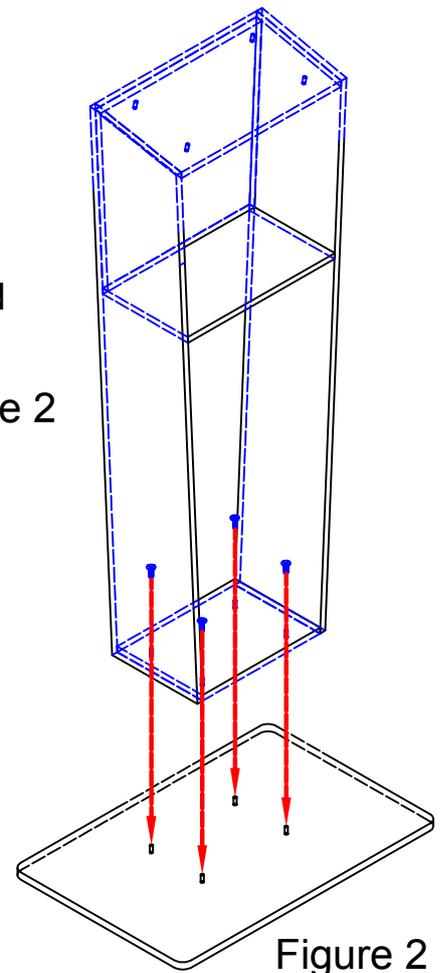

Figure 2
3. Using the provided Screwdriver, attach the Body to the Base with (4) Flat Head Screws as illustrated in Figure 2